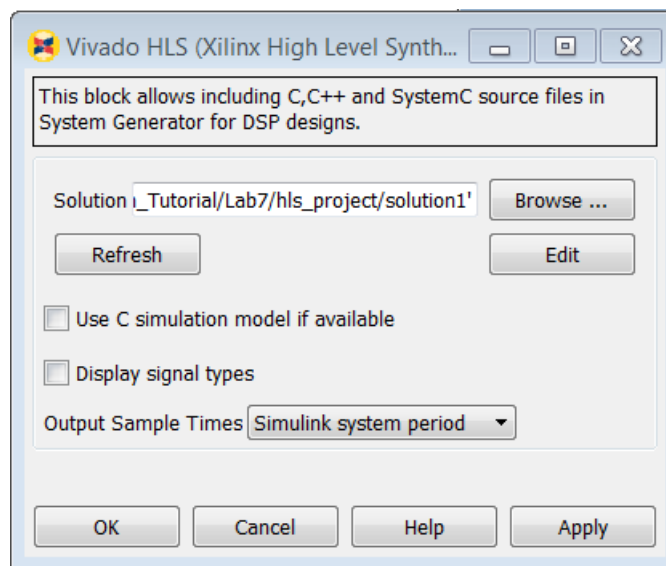

Figure 86: Importing Vivado HLS IP
7. Use the **Browse** button to select the solution created by Vivado HLS in Step 1, at `C:/SysGen_Tutorial/Lab7/hls_project/solution1`, as shown in Figure 86: Importing Vivado HLS IP.